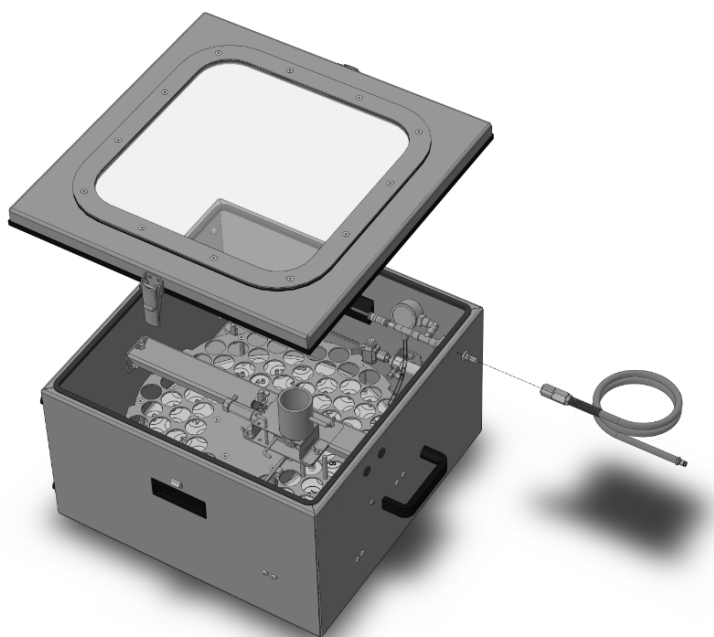

Figure 34. Air tube for sampler
1. Connect the air tube to the sampler , see figure 34